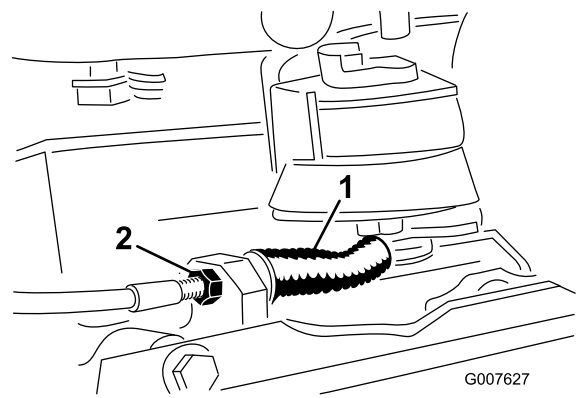

Figure 34
- To decrease the cable tension, loosen the front cable jam nut and tighten the rear jam nut (Figure 34). Repeat steps 1 and 2 and adjust the tension if required.
- To increase the cable tension, tighten the front cable jam nut and loosen the rear jam nut (Figure 34). Repeat steps 1 and 2 and adjust the tension if required.